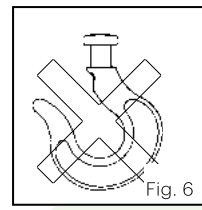

Fig. 6
- **Do not** remove the safety latch from the load hook. (See Fig. 6).